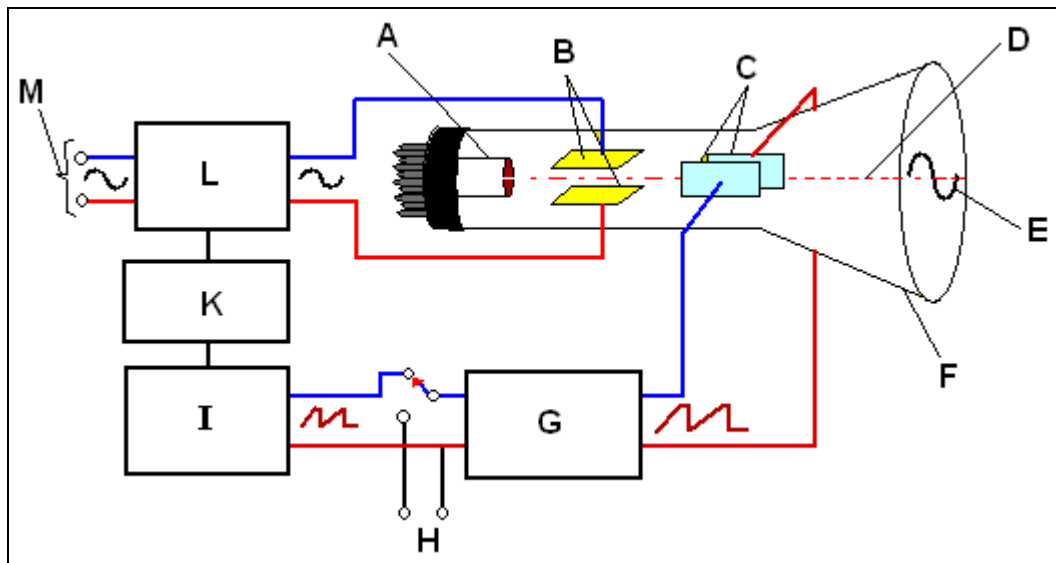

Fig. 1.4-7 Oscilloscope Block Diagram
6. Identify all the functional blocks in Fig. 1.4-7 for the block diagram of an Oscilloscope.